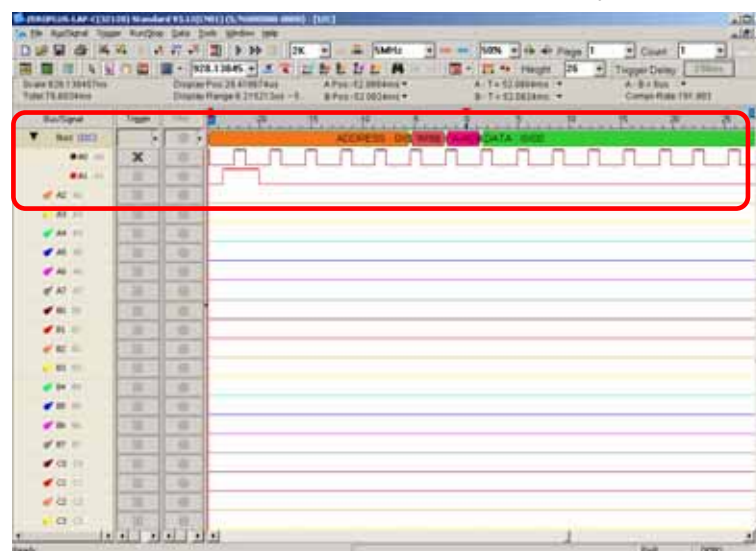

Fig 4-68 – Waveform Analysis
**Step8.** Click **Run** to acquire I2C signal from the tested I2C circuit. Refer to Fig 4-68.